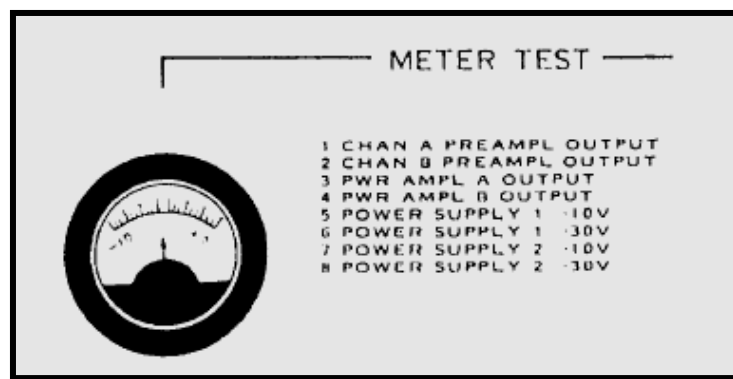

Figure 7-18.— Test meter.
**TEST METER.**— The test meter is used with the meter test switch for testing the output of the power supplies and for silent and remote testing of the amplifier channels and oscillator groups. Figure 7-18 is an illustration of the test meter.